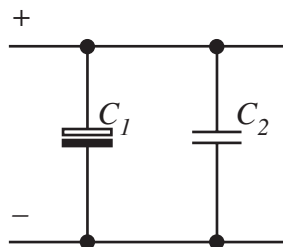

FIG. 16
5. Many power supply networks have smoothing capacitor arrangements, as shown below in FIGURE 16, where  $C_1$  is a large electrolytic capacitor and  $C_2$  is a small non-electrolytic capacitor. Why should we need  $C_2$ ?